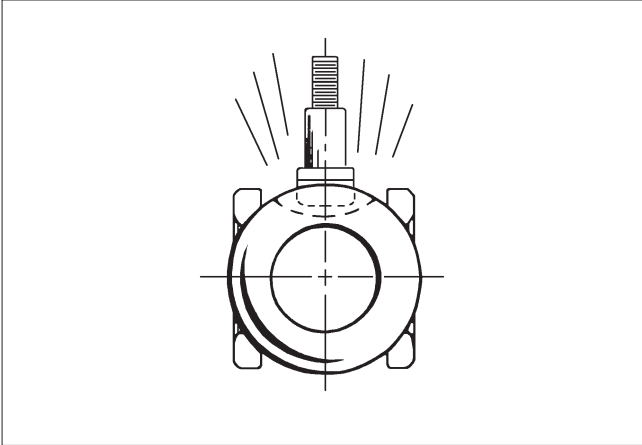

Figure 3.
1. Slide one valve seat (5) sidewise into the body cavity (1) to just below the stem hole and tilt it into place so that the proper face will come in contact with the ball (3) (see **Figure 3**) Do not scratch or cut the seat face.
2. From inside of the body cavity, insert one secondary stem seal (7) and one stem seal (8) up into the lower stem counterbore.
3. From the outside of the body, insert the set of upper stem seals (24) into the upper stem counterbore.
4. Insert the stem (4) into the body cavity (threaded end first), and press it gently up into the stem bore until resistance is felt from the lower stem seal. Be careful not to scratch seals.
5. Holding the stem in place from inside the body, drop the compression ring (21) over the threaded end of the stem protruding out of the body stem bore. Follow the same procedure with indicator stop (12) and lock washer (33). Then screw on stem nut (16).